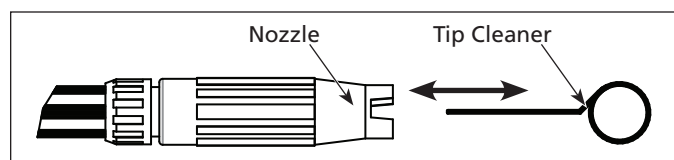

Figure 4
- Using the included tip cleaner, or an un-folded paper clip, insert wire into the nozzle hole and move back and forth until debris is dislodged (refer to Figure 4).